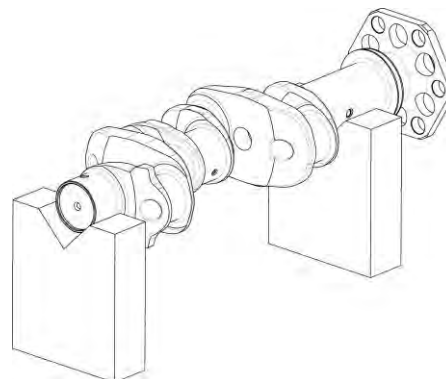

Figure 8
- I. Put the crankshaft in a suitable V-block-type fixture as shown in Figure 8.